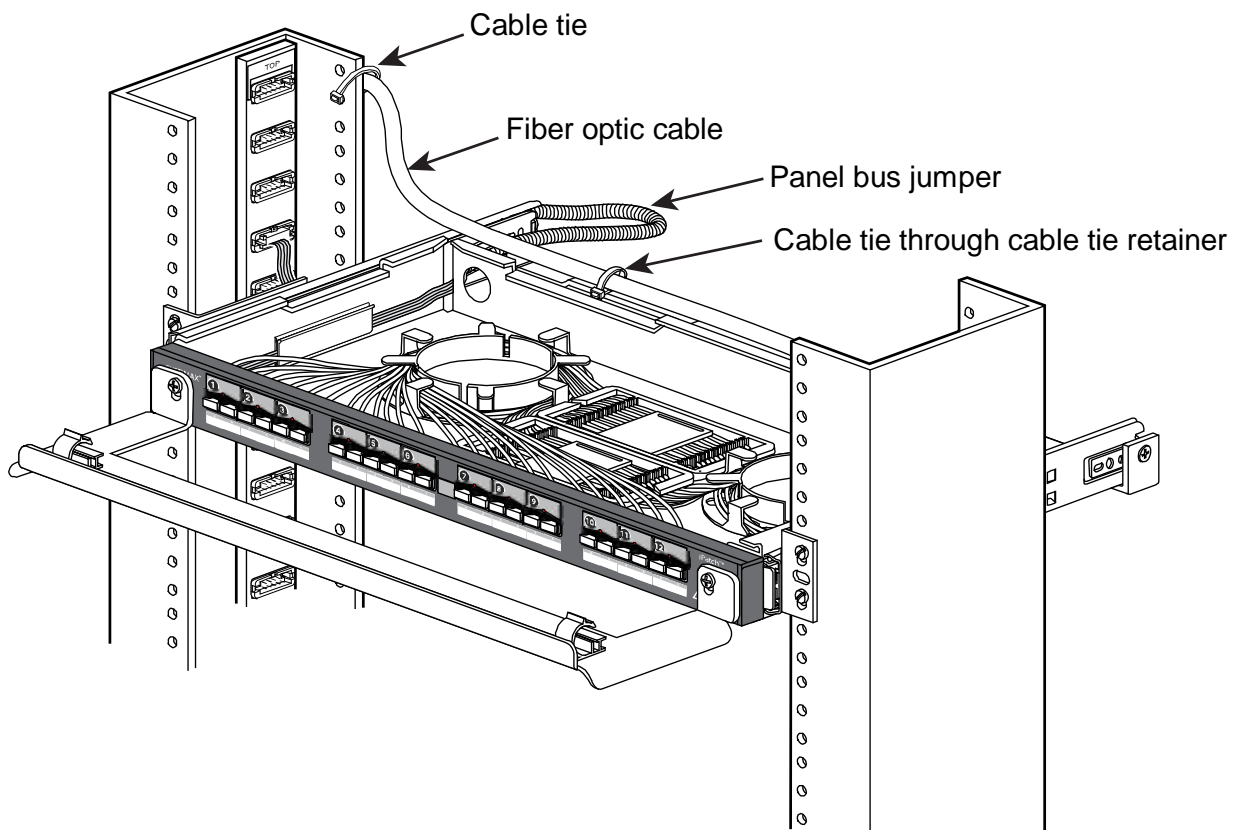

Figure 12 Securing the Cable to the Back of the Shelf and Rack
1. Insert a flat cable tie holder (provided) up through the hole in the cable support on the rear of the shelf on the side opposite from where the cable enters the shelf (Figure 12). For example, if the cable enters the shelf on the right side, use the hole on the left side of the cable support.
3. Secure the incoming fiber optic cable to the back of the rack approximately 7 inches (about 18cm) above the shelf (Figure 12).